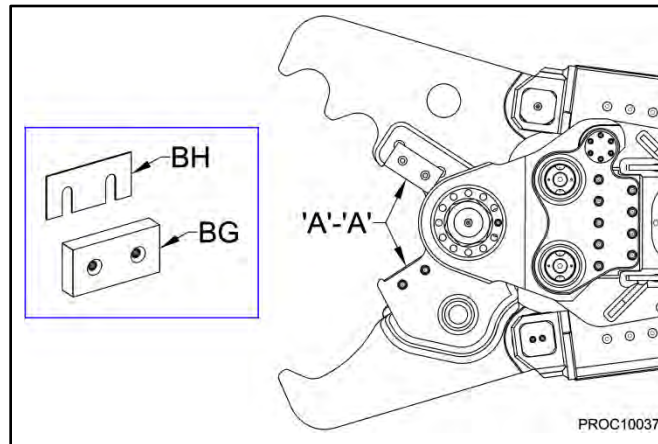

Fig. 1
A blade-to-blade ('A'-A') clearance of .010" to .040" (0.25 to 1.00 mm) should be maintained for optimum performance. Install shims (BH) under blade (BG) as necessary, see fig. 1.